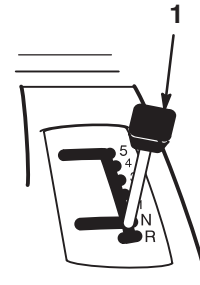

Figure 8
3. Shift the ground speed lever into Neutral (N) (Fig. 8).